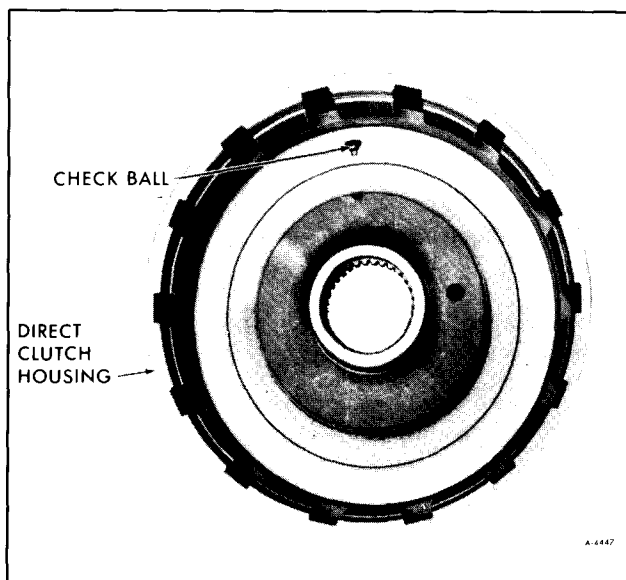

Figure 80—Direct Clutch Housing
**IMPORTANT:** 1975 and 1976 transmissions now use a direct clutch housing with a check ball, see Figure 80. If the housing requires replacement and the replacement housing does not contain a check ball, replace the direct clutch piston with the service piston which has a check ball. **EITHER THE DIRECT CLUTCH HOUSING AND/OR THE PISTON MUST CONTAIN A CHECK BALL.**